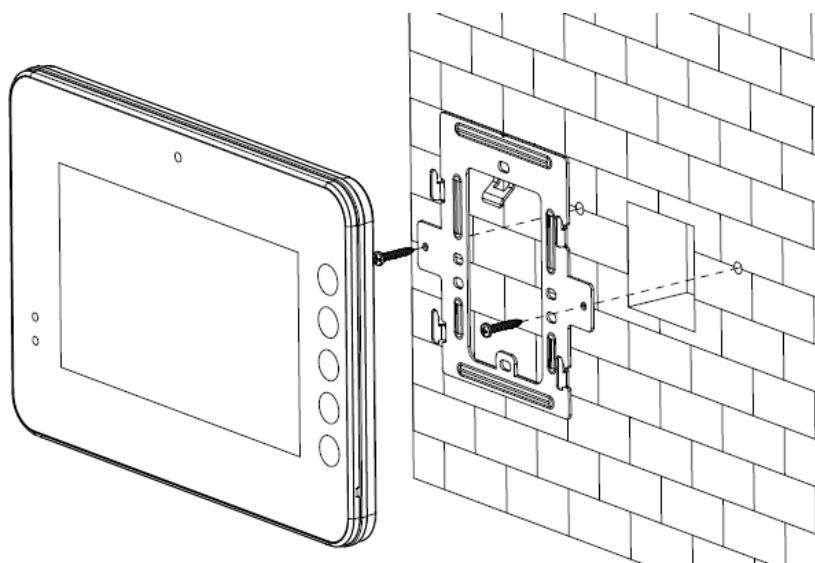

Figure 5-3
- Fix the device on the installation bracket and then use the clip to secure. See Figure 5-3.